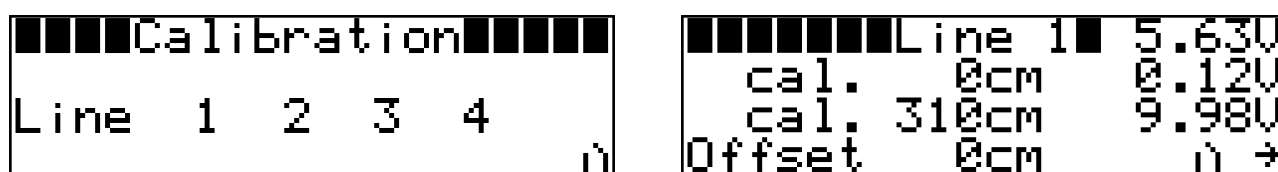

Fig. 9: Calibration
If the feedback signal potentiometer for the selected feed line is correctly connected to the height controller, then a slightly varying voltage will be displayed in the calibration menu in volts (V) (see for example Fig. 9: 5.63V).
distance is entered in the feed line calibration menu in the second row as the calibrated height (see as example Fig. 9: 310cm). Finally, you select `Calib.` with the cursor in the third row of the display and press the control knob. The voltage value shown in the first row will subsequently be displayed at the end of the third row.